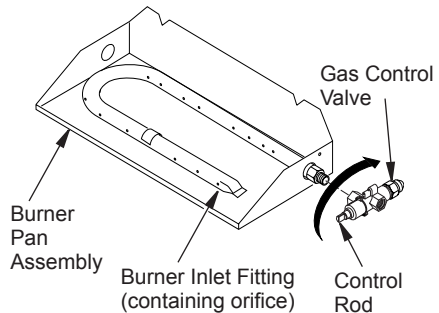

Figure 7 - Installing Gas Control Valve
1. Thread the gas control valve onto the burner inlet fitting (see Figure 7). Use thread sealant on the male threads of the burner inlet fitting. Hold the burner inlet fitting with a wrench to prevent overtightening the connection to the burner. Make sure the control rod is facing the front (see Figure 7).